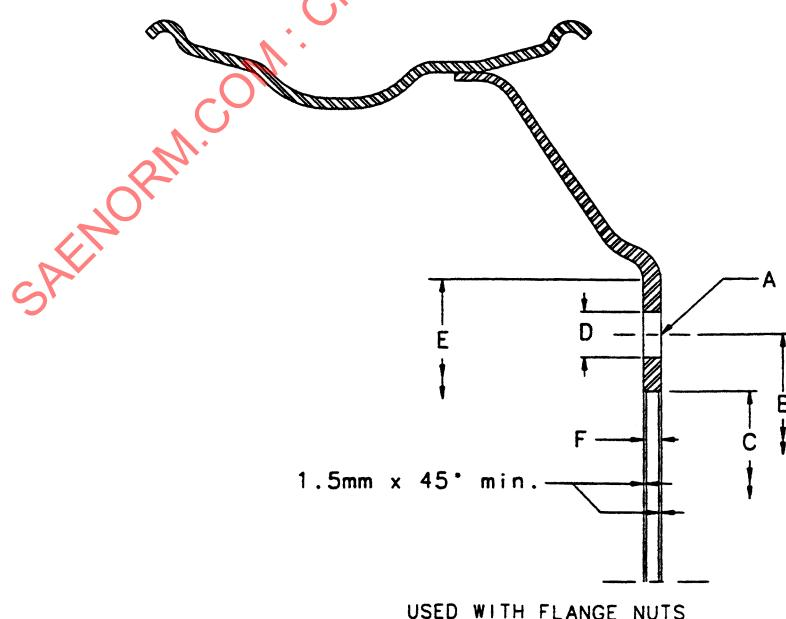

FIGURE 1—FERROUS DISC WHEEL
3. **Definitions**—A detailed listing of basic nomenclature is contained in SAE J393. Figures 1 to 13 introduce, illustrate, and specify additional nomenclature and definitions.
5.1.1 **DEFINITIONS OF WHEEL DIMENSIONS**—Reference Figures 1 and 2.